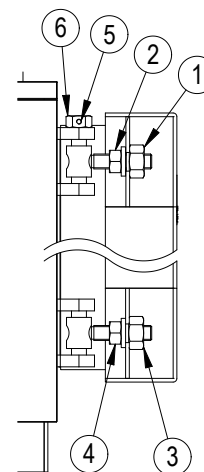

fig. 10
5.6.2 Para modelos PREXTHERM RSW 720N÷1060N (Fig. 10)